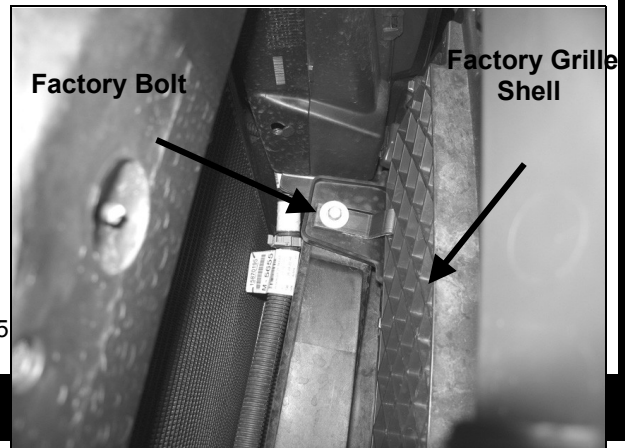

Fig 4
6. Open the hood and remove the four screws across the top of the factory grille shell (**Figure 4**). Once you have removed the screws, gently pull on the grille shell just enough to gain access to remove the factory bolt on each side of the bottom grille shell support (**Figure 5**). **WARNING!** Do not pull too much on the factory grille shell or damage to the grille shell may occur.